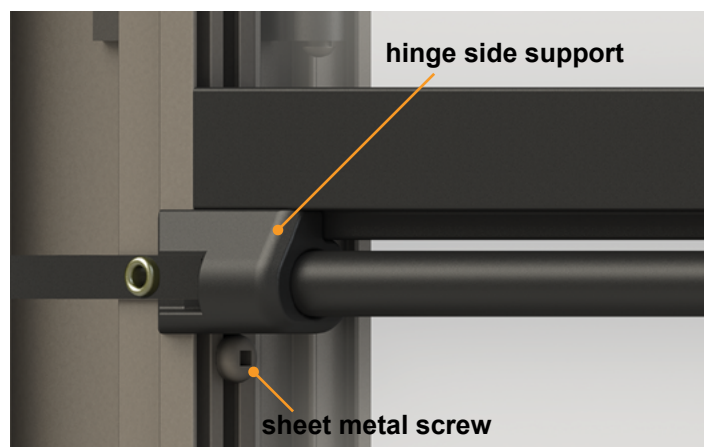

Fig.4
6. Install one sheet metal screw underneath the hinge side support of the Screen Shot in the channel closest to the screen (Fig.4).